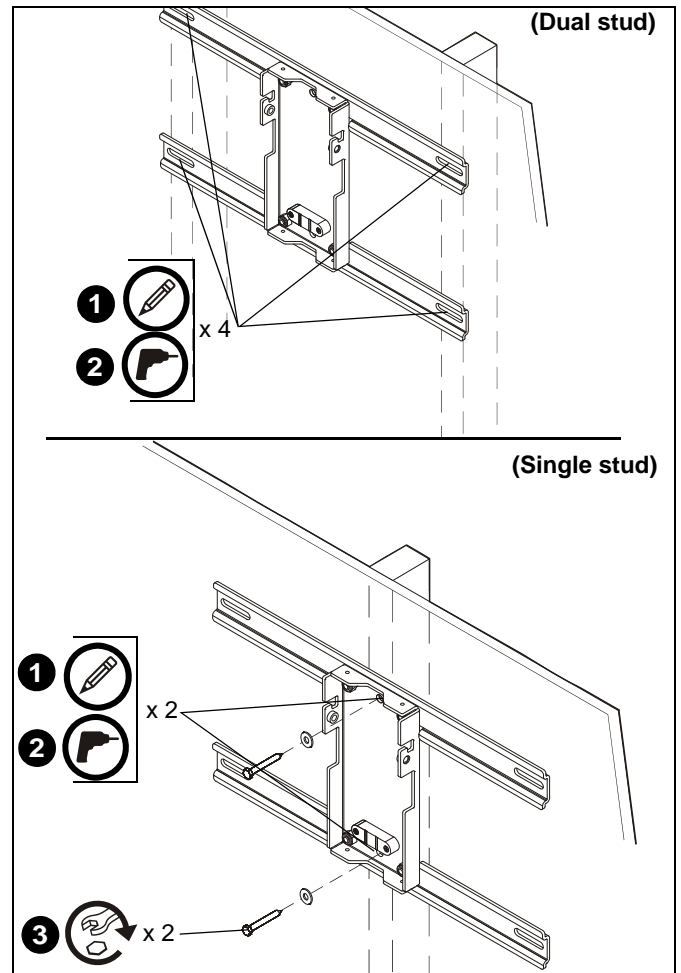

Figure 4
1. Using a stud finder and wall plate/bracket assembly, mark four preliminary mounting holes over center of steel studs, or two mounting holes (single stud) in wall plate. (See Figure 4)
2. Drill one 1/2" hole at marked location on wall. (See Figure 4)